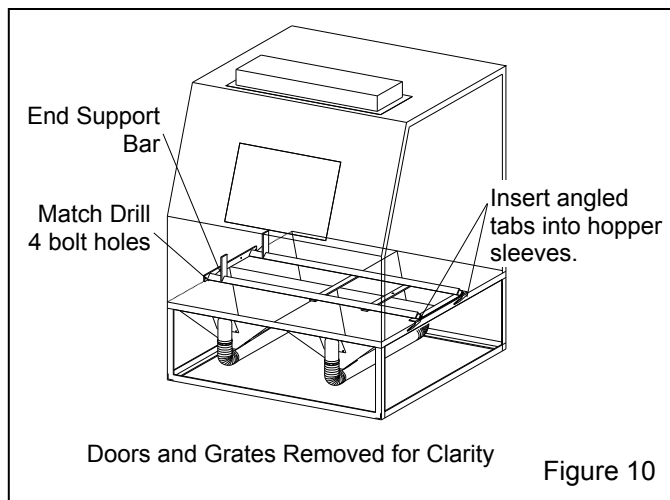

Figure 10
3.4.2 Install inside track, refer to Figure 10
3.4.2.1 Lay the inside track on the cabinet hoppers and above the grate as shown in Figure 10.